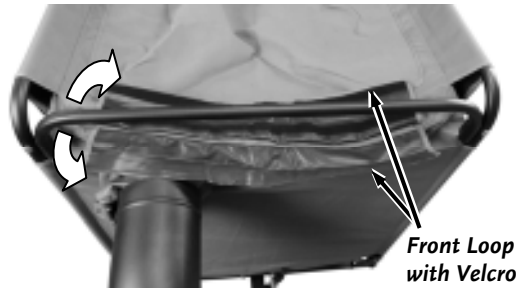

Figure 40
22. Open up the Front Loop by pulling at the Velcro closures to separate them (Figure 40).